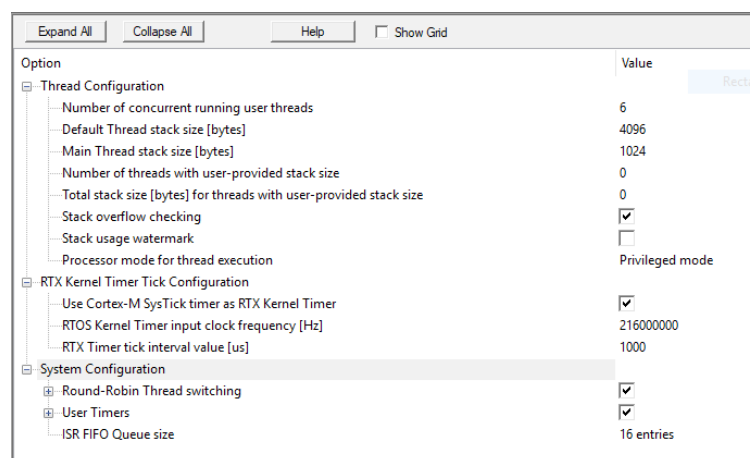

Figure 15 – RTOS configuration settings for the full application
6. The final modification that is almost certain to be needed to make the code run properly is to increase the default stack size for all the threads (as discussed in the previous task). Both our data acquisition thread and our data display thread are doing quite a lot of work in this application – and therefore we will give them a sizeable stack to work with. Figure 15 shows the RTOS configuration settings that I have used successfully.